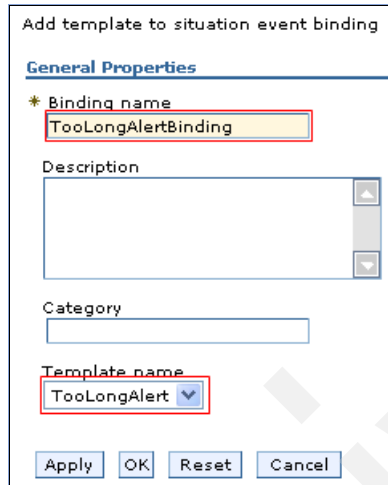

Figure 8-141 Adding the binding
9. Under General Properties (Figure 8-141), for Binding name, type TooLongAlertBinding, and for Template name, select **TooLongAlert**. Click **OK**.